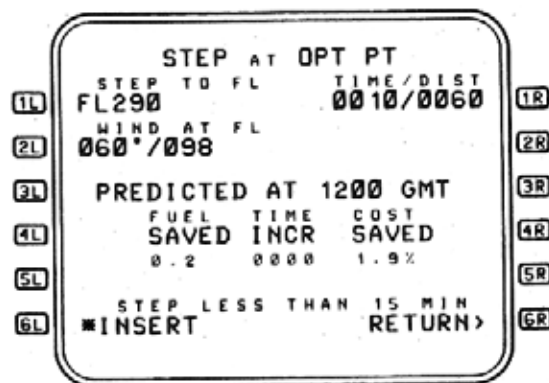

Figure 2-40
1L STEP TO FL - The desired step altitude is written in the SP and transferred into the boxes. The FMC makes the determination between a STEP CLB and STEP DES based on whether the altitude specified by the pilot is above or below the CRZ ALT. Step altitude must be within 8000 ft of CRZ ALT. In the case of a STEP CLB, the specified altitude must be above the highest altitude constraint or the SP message, "ENTRY OUT OF RANGE", is displayed, and entry of the step will not be allowed. Entry of an altitude into this field causes the display to revert to Figure 2-40.
4. STEP PRED - Enter PPOS wind at the STEP altitude on the STEP PRED page. Figure 2-40, **2L**